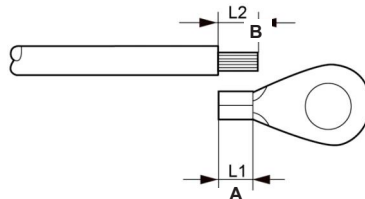

Figure 3.9 External Grounding Conductor Terminal
1. Strip the ground cable insulation to a suitable length. (see Figure 3.9)